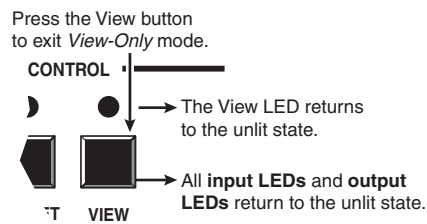

Figure 3-37 — Press the View button to exit View-Only mode
6. Press and release the View button to exit *View-Only* mode (figure 3-37).